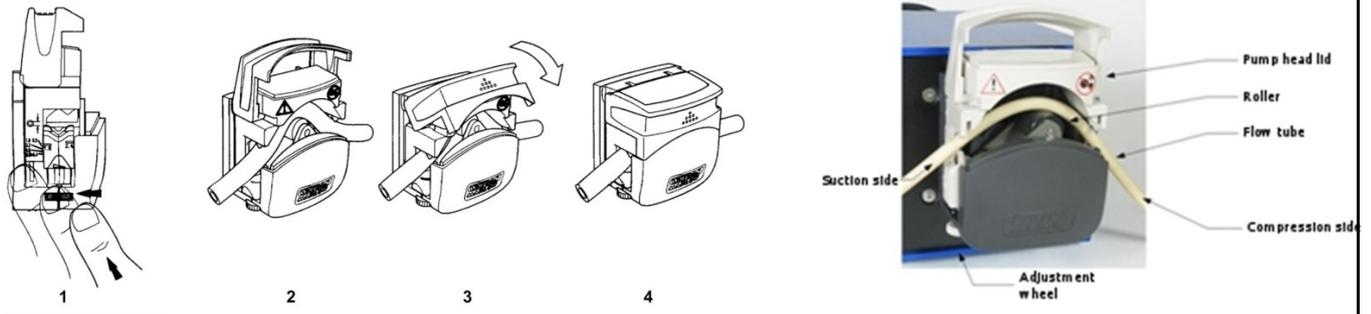

Figure 1
2. Adjust the tube clamp on the suction side to the correct tube diameter so that the tube is not pulled into the pump head or clamped shut. This is done with the white adjustment wheel. A scale is made on the head with the inner diameter of the tube on it. Make sure that the line on the tube clamp corresponds with the scale on the head. The cover of the pump head must be fully opened. The tube clamp on the pressure side must be fully open. (fig. 1.)